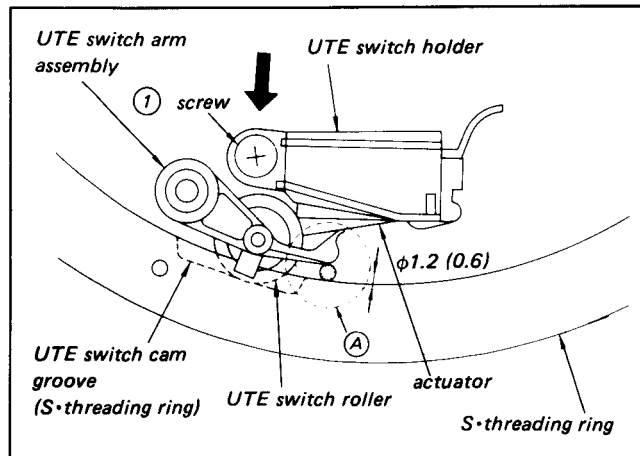

Fig. 3-35. UTE Switch Position Adjustment
Rotate the S threading ring by hand. Verify that the switch trips when a pin of $\phi 1.2$ is inserted at section (A) in Fig. 3-35 after the UTE switch arm roller assembly has dripped into the UTE switch cam groove. Verify that the switch does not trip when a pin of $\phi 0.6$ is inserted.